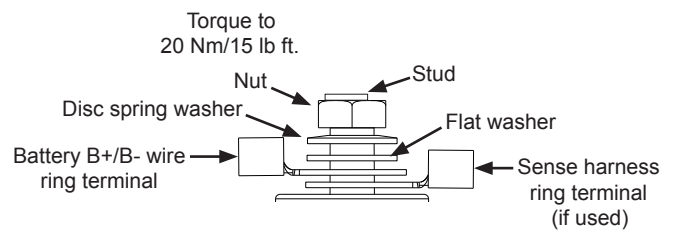
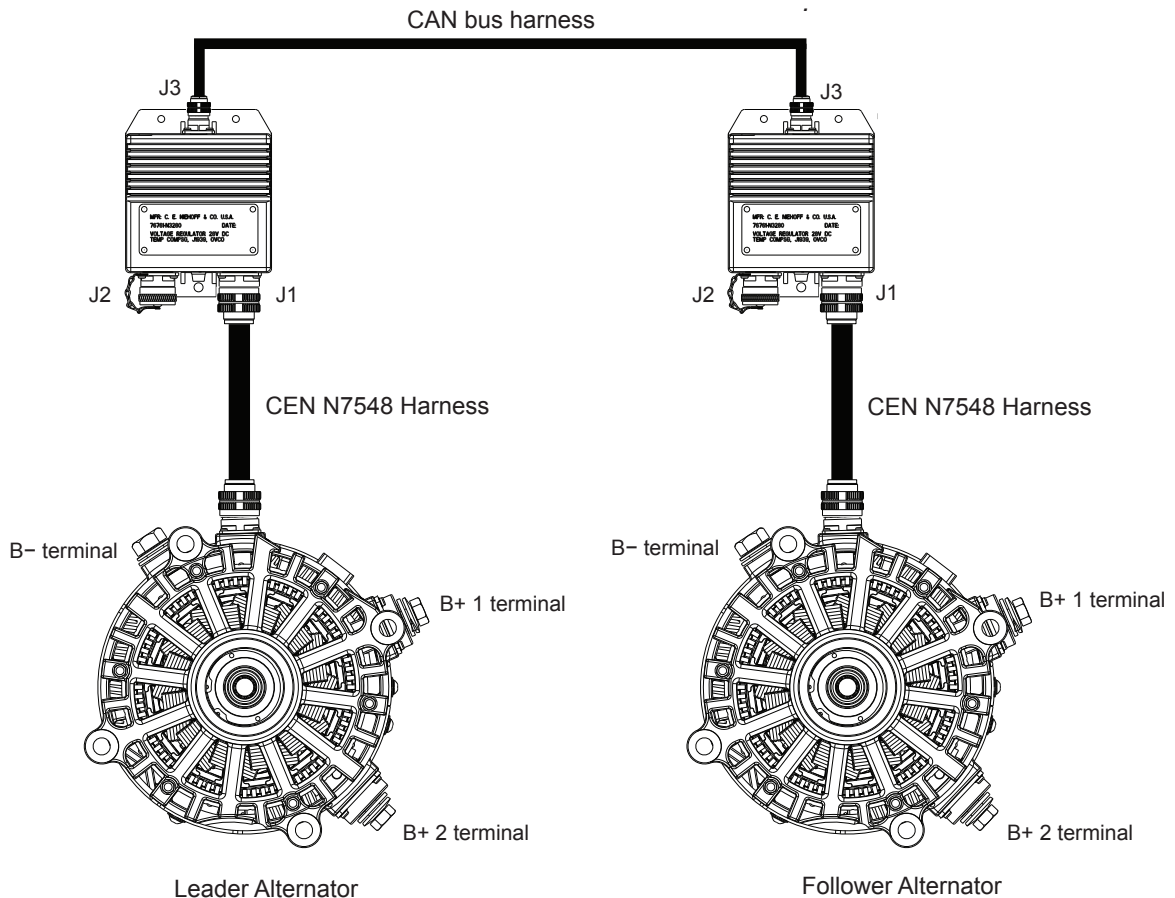

Figure 2: B+/B- Terminal Hardware Stacking Order
Figure 4: N1460 Leader-Follower Alternator Connections
3. Connect vehicle B+ wires to alternator B+ terminals. Install hardware in stacking order shown in Figure 2 and torque to 20 Nm/15 lb ft.
4. Connect battery B- wire to alternator B- terminal. Install hardware in stacking order shown in Figure 2 and torque to 20 Nm/15 lb ft.
5. If installing alternators in a leader-follower configuration, refer to Figure 4 on page 2.
2. Connect each alternator to J1 connector on a N3280 regulator, using a CEN N7548 harness. See Figure 4.
3. Connect first battery bank B+ wire to lead B+ 1 (primary) terminal on leader alternator. Secure with hardware in stacking order shown in Figure 2 on page 1. Torque to 20 Nm/15 lb. ft.
4. Connect second battery bank B+ wire to B+ 2 (secondary) terminal on leader alternator. See Figure 4. Secure with hardware in stacking order shown in Figure 2 on page 1. Torque to 20 Nm/15 lb. ft.
5. Connect battery B- wire to B- terminal on leader alternator. See Figure 4. Secure with hardware in stacking order shown in Figure 2 on page 1. Torque to 20 Nm/15 lb. ft.
6. Connect vehicle J1939 harness (if used) to J2 Link regulators by plugging a 3-pin CAN bus harness into J3 connectors, as shown in Figure 4.